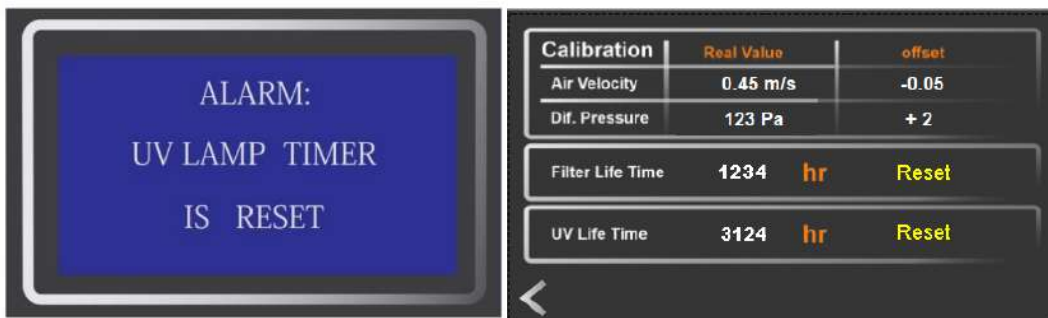

Figure 4-9 UV Lamp Timer is Reset
- Tap and hold for 20 second the “ Reset” button to update the installed date, and the UV work hours will be fall to zero. When you tap the “Reset button”, a pop-up screen shown in Figure 4-9